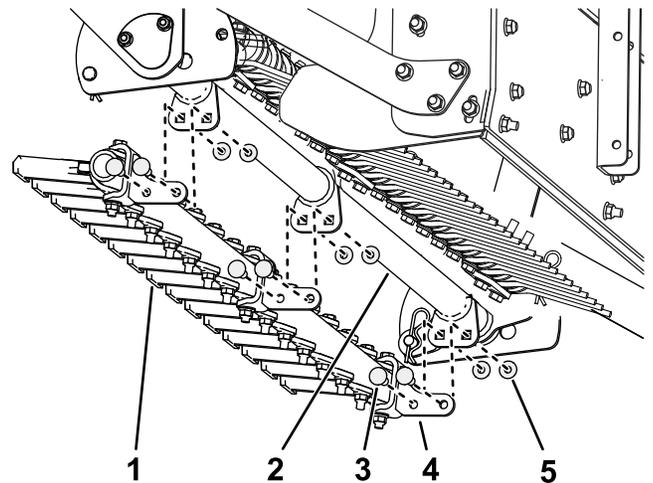

Figure 3
3. Install the weeder tine toolbar in place with the 6 carriage bolts and locknuts removed from the multi-tool arm as shown in Figure 3.